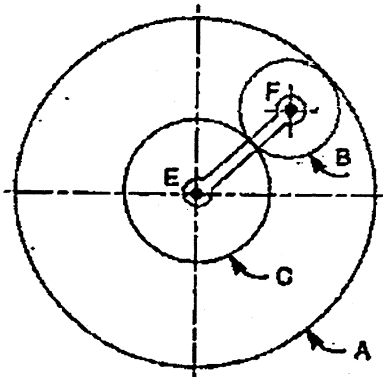

Fig 4
12. An epicyclic gear consists of three gears A, B and C as shown in Fig. 4. The gear A has 72 internal teeth and gear C has 32 external teeth. The gear B meshes with both A and C and is carried on an arm EF which rotates about the centre of A at 18 rpm. If the gear A is fixed, determine the speed of gears B and C.